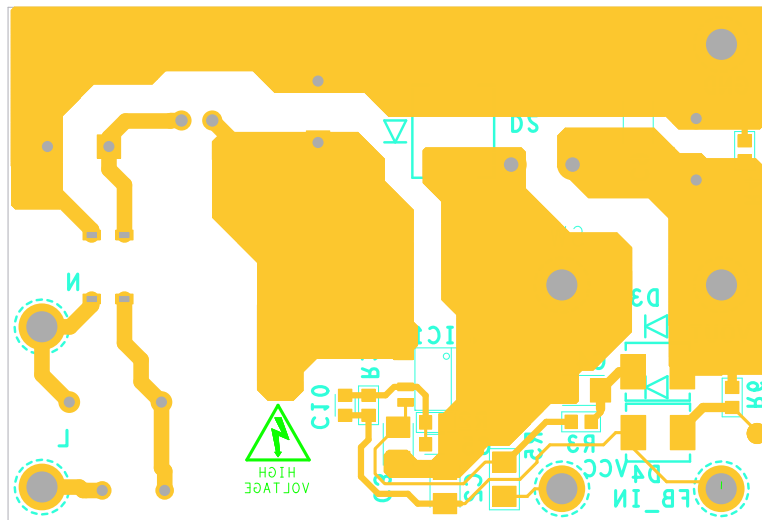

Figure 34. Example PCB Layout
- Place the  $V_{CC}$  decoupling capacitor and the FB pin decoupling capacitor close to the pins. A single-sided PCB layout example is shown in Figure 34.